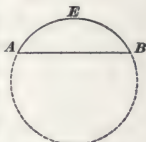

FIG. 42.
**71.** A **chord** is a straight line joining any two points in a circumference; or it is a straight line joining the extremities of an arc; thus, the straight line  $AB$ , Fig. 42, is a chord of the circle whose corresponding arc is  $AEB$ .